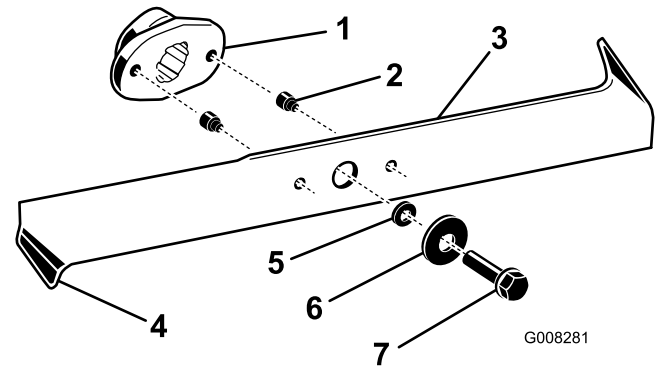

Figure 41
2. Inspect the cutting edges (Figure 41). If the edges are not sharp or have nicks, remove the blades and sharpen them; refer to Sharpening the Blades \(page 33\).
3. Inspect the blades, especially the bent edges (Figure 41). If you notice any wear or damage in this area, immediately install new blades.
4. If the shear pins are broken, replace them immediately (Figure 41).
3. Remove the bolts, washers, and blades (Figure 41). Wedge a block of wood between each blade and the mower to lock the blade when you are removing each bolt.
1. Install the blades, washers, and blade bolts (Figure 41).